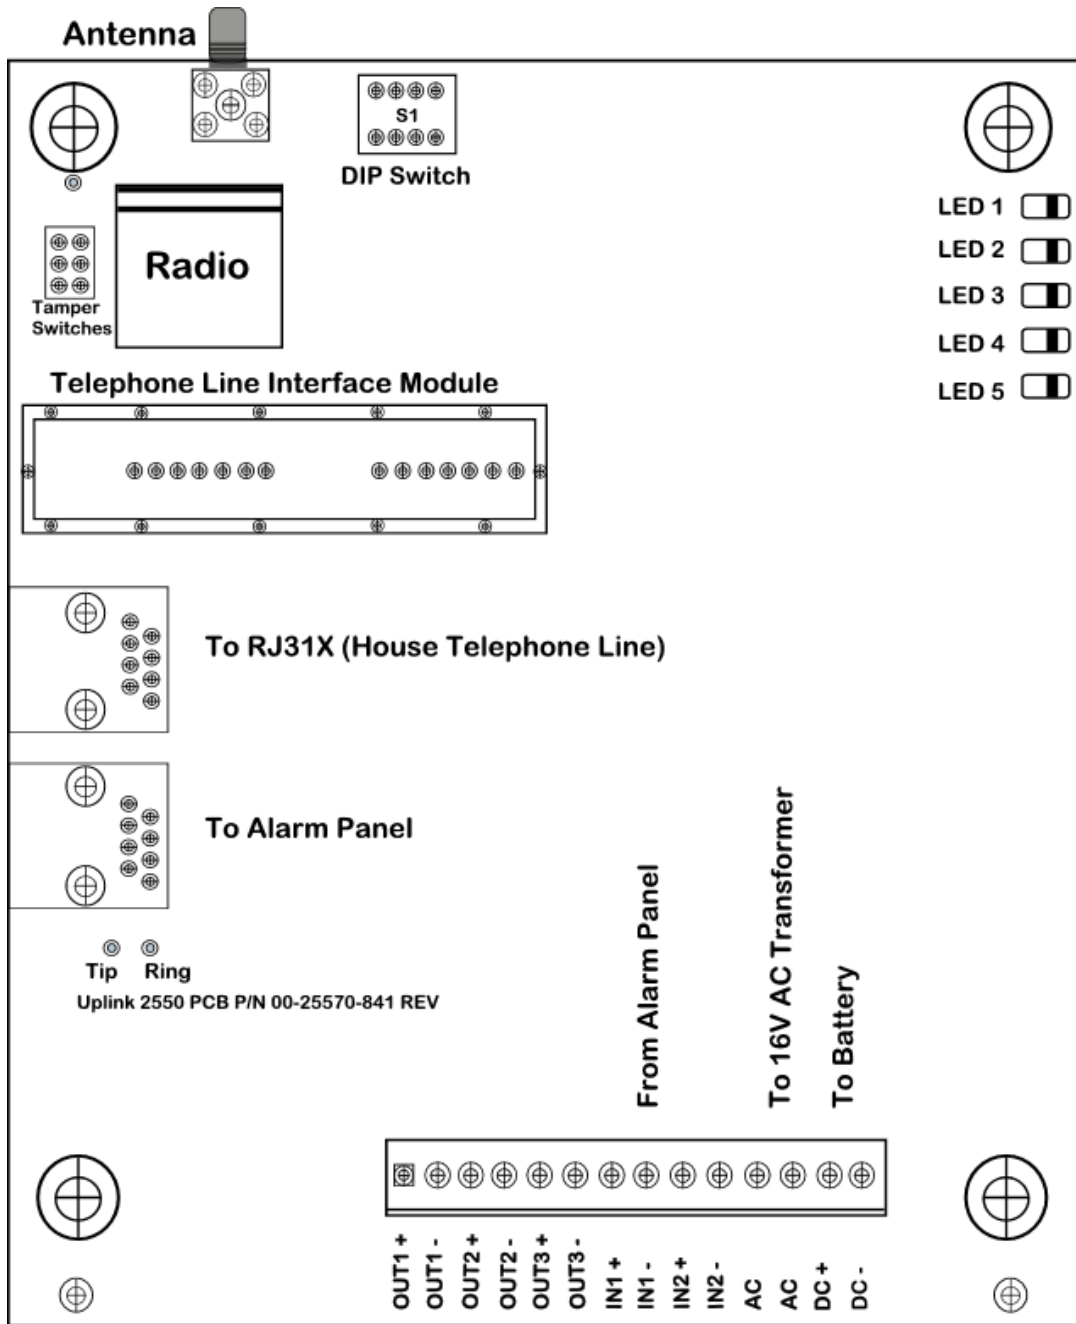

Figure 1: Parts on the 2550-CF PC Board
1. Open the enclosure's door. Locate the four (4) mounting holes. Use the enclosure as a template to mark where to drill holes for the screws and anchors that will hold the enclosure in place on the wall.
3. Go to the red, 4-position Dipswitch as shown in Figure 1 and set the dipswitch as appropriate for this installation. (See Section 7B.)